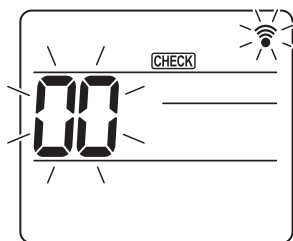
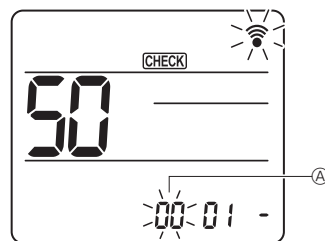
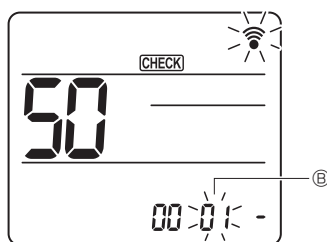
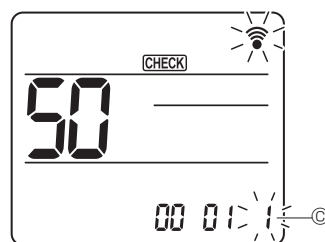

Fig. 7-16
Fig. 7-17
Fig. 7-18
Fig. 7-19
7.4.2. By wireless remote controller (Fig. 7-16, Fig. 7-17, Fig. 7-18, Fig. 7-19)
- ① Going to the function select mode
[CHECK] is lighted and "00" blinks. (Fig. 7-16)
- ② Setting the unit number
Press the [DOWN] button to set unit number ①. (Fig. 7-17)
- ③ Select a mode
Press the [DOWN] button to set Mode number ②. (Fig. 7-18)
- ④ Selecting the setting number
Use the [DOWN] button to change the Setting number ③. (Fig. 7-19)